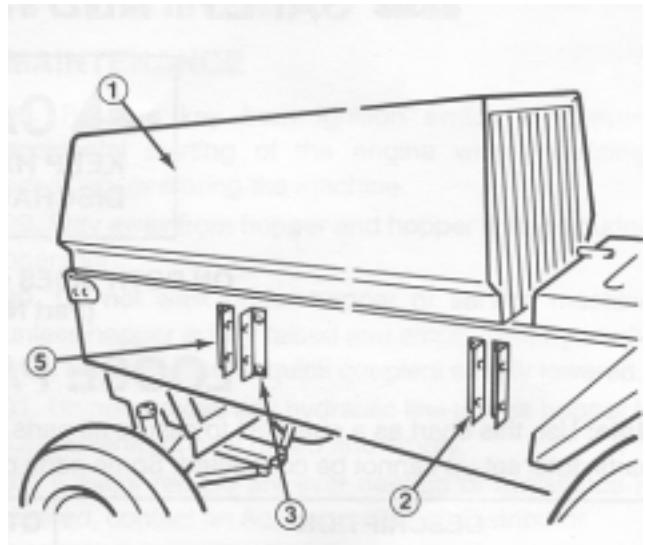

Figure 3
1. Position brackets over existing mounting holes as shown in figure 3. Mount brackets using (1) 3/8-16 x 2" lg. capscrew, (7) 3/8-16 x 1-1/4" lg. capscrews, (8) 3/8 washers, (6) locknuts and (2) lockwashers.